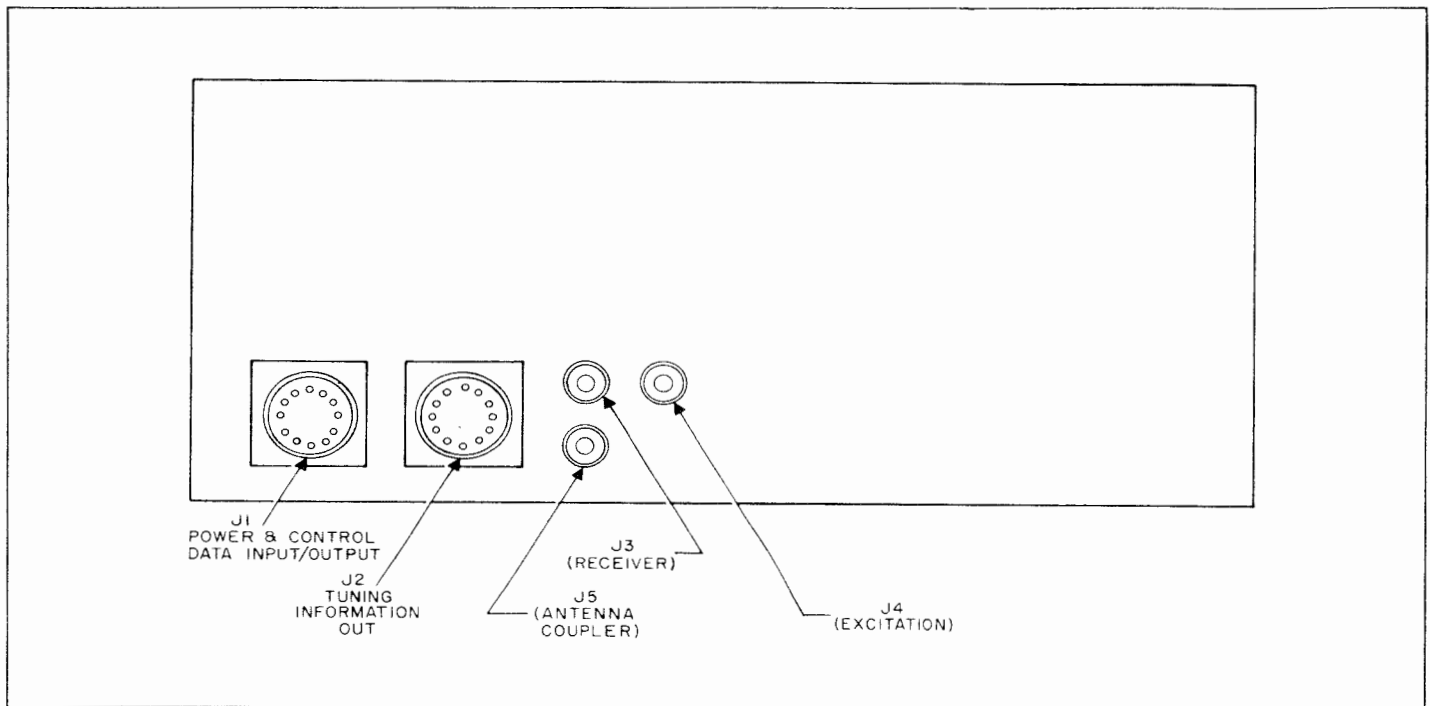

Figure 1-1. Power Amplifier-Power Supply SC-910A, Rear View
1.5.3 Installation Layout. The Power Amplifier should be installed as close to the Exciter-Receiver-Antenna Coupler combination as possible to minimize RF cable lengths. It may be table or rack mounted in a standard 19-inch relay rack using adapter plates (not furnished). AC power and control data connections are made to the unit via J1 and J2 using the connectors listed in paragraph 1.2. Signal cables made up of RG58/U with UG88/U connectors are connected as illustrated in figure 1-1. See figure 2-1 for additional interconnection information.